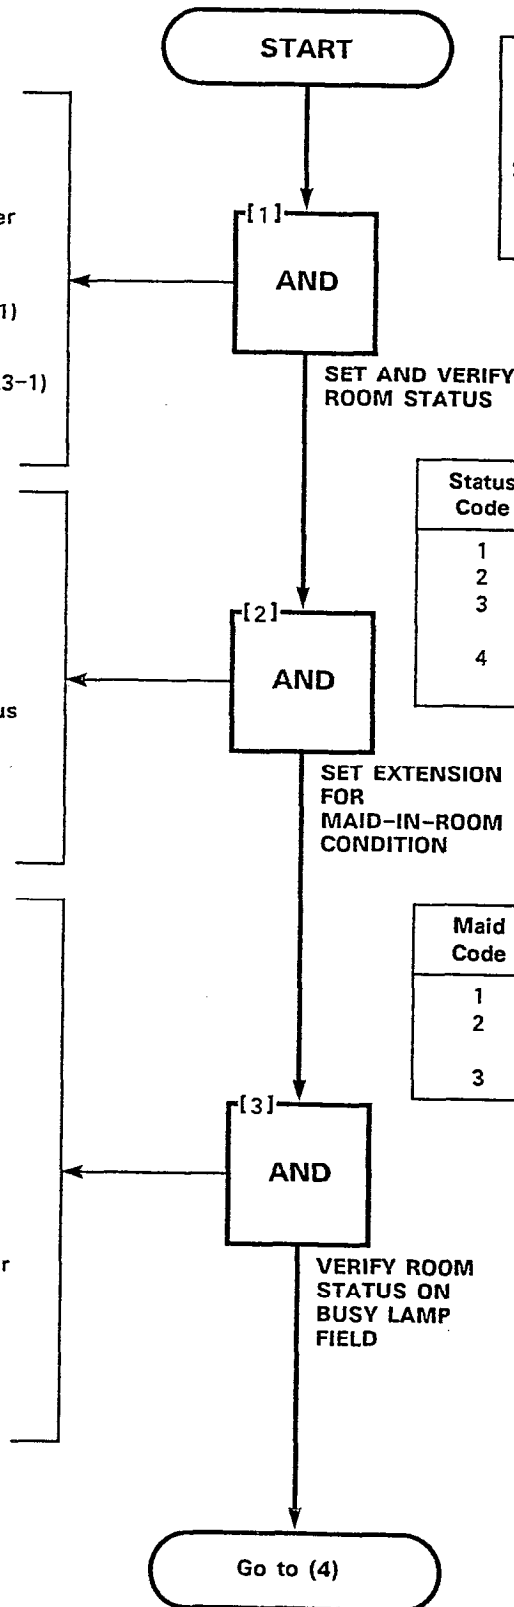

Figure 323-1
* DESTINATION display shows room status code 3 (Figure 323-1)